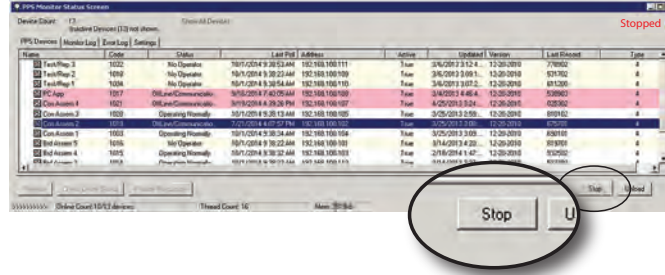

Figure 73. PPS Monitor Status Screen: Click **Stop** before updating or initializing a PPS device.
Once you've made all of your changes, you need to update the device. Before updating the device you need to stop PPS Monitor by clicking the **Stop** button at the bottom of the *PPS Monitor Status Screen* (see *Figure 73*). Switch to the **Update Device** tab. The tab contains two options: **Update Device** or **Initialize Device**.
1. Click **Stop** on the *PPS Monitor Status Screen* (see *Figure 73* on page 56).